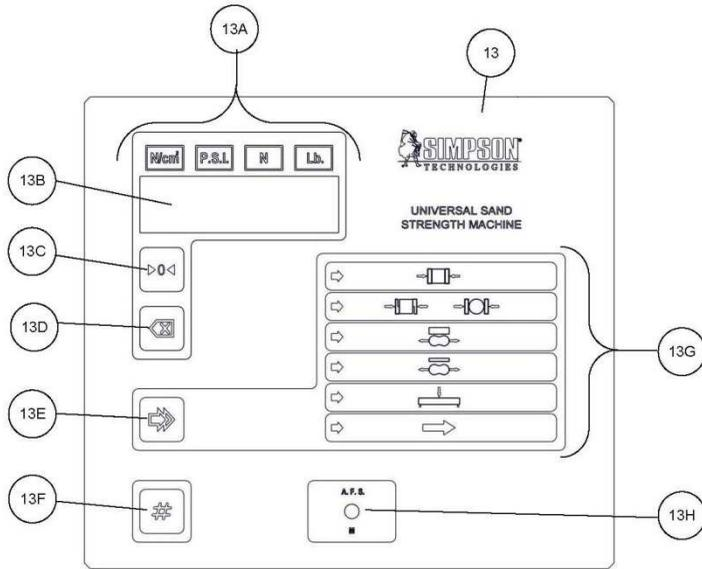

Figure 7.4: Electronic Panel
6. To change from one register to the next, press the "Start" button (Figure 7.4, Item 13F) and the digital display will advance to the following register and respective content.
(Figure 7.4, Item 13D) to raise content value or the "Test Selection" button (Figure 7.4, Item 13E) to reduce the value. After passing register 9, the number 255 will appear on display. Press the "Start" button to return to the "HELLO" message.
8. The "rESET" function sets the machine within the fabrication parameters. To reset the fabrication parameters, press the "Start" button (Figure 7.4, Item 13F) when the "rESET" message appears on the digital display. After pressing the "Start" button while the digital display shows "rESET," all digits in the display will illuminate signifying the operation is fulfilled. Shortly after, a "HELLO" message will be displayed again. If any key is pressed four times while this message is displayed, the three calibration modes will reappear successively. At this point all parameters are reset to their original manufacturer's values.